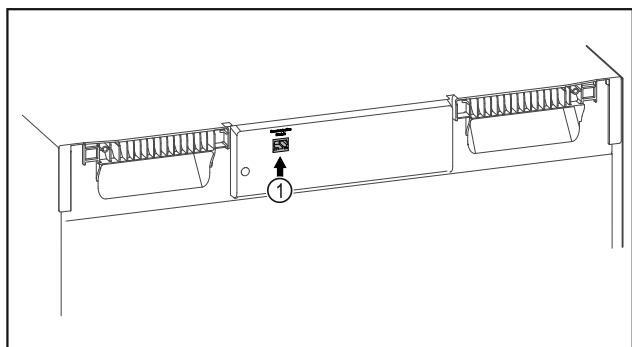

Fig. 110
- SmartModule Fig. 110 (1) is in use.